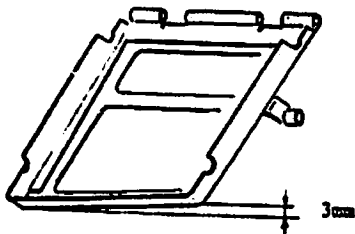
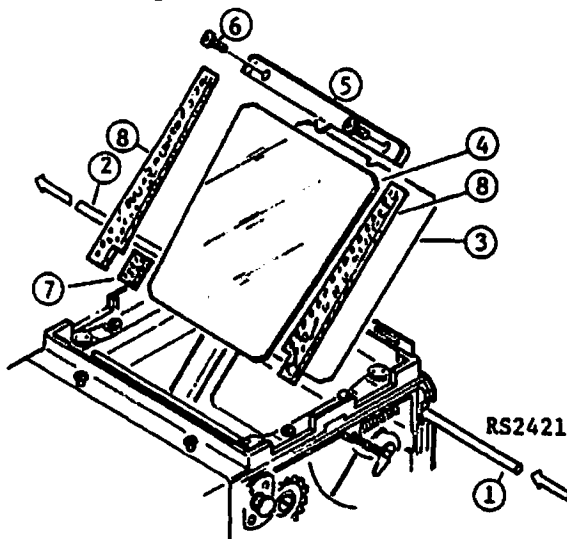

Fig. 40
Fig. 42
(1) Fill up gap of rivetted Light baffle plate by glue (DB. Bond), and paint mat lacquer.
(2) The upper end of the mirror curtain is placed to set 3 raised marks.
(3) In order to keep the parallel of Mirror holder, the left side of the Mirror holder is bent about 3mm as shown in Fig. 40.
(4) Assemble in the reverse order of disassembly.
(5) Replace shaft (RS2421).
(6) Attach Mirror in the order of the numerals in a circle as shown in Fig. 42.
(7) Mirror holder shall touch Stopper of both sides of the body.